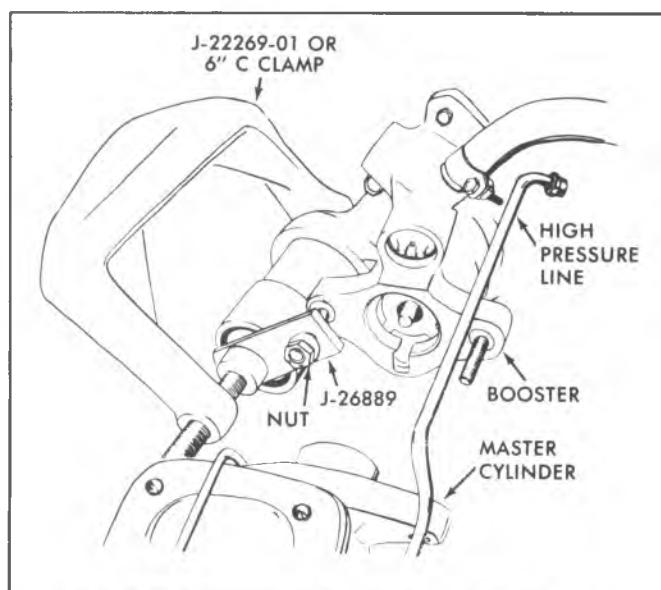

Fig. 5-6E--Compressing Accumulator With J-26889
12. Place the accumulator retaining cap Tool J-26889 over the master cylinder stud and install the nut as shown in Figure 5-6E.
13. Using Tool J-22269-01 or a large "C" clamp (6" minimum), depress the accumulator. Insert a punch into the hole in the housing and remove retaining ring with a small screwdriver, (fig. 5-6E).
17. Using Tool J-22269-01 or a large "C" clamp (6" minimum) depress the accumulator making certain that the accumulator is compressed straight (fig. 5-6E).